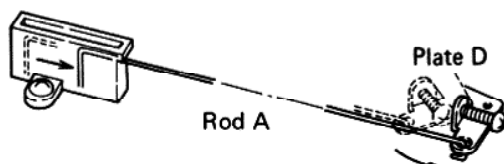

Fig. 10
1. As record playback proceeds and the tonearm approaches the inner record grooves, rod A (directly coupled to plate D) moves in proportion to the amount of tonearm movement (Fig. 10).